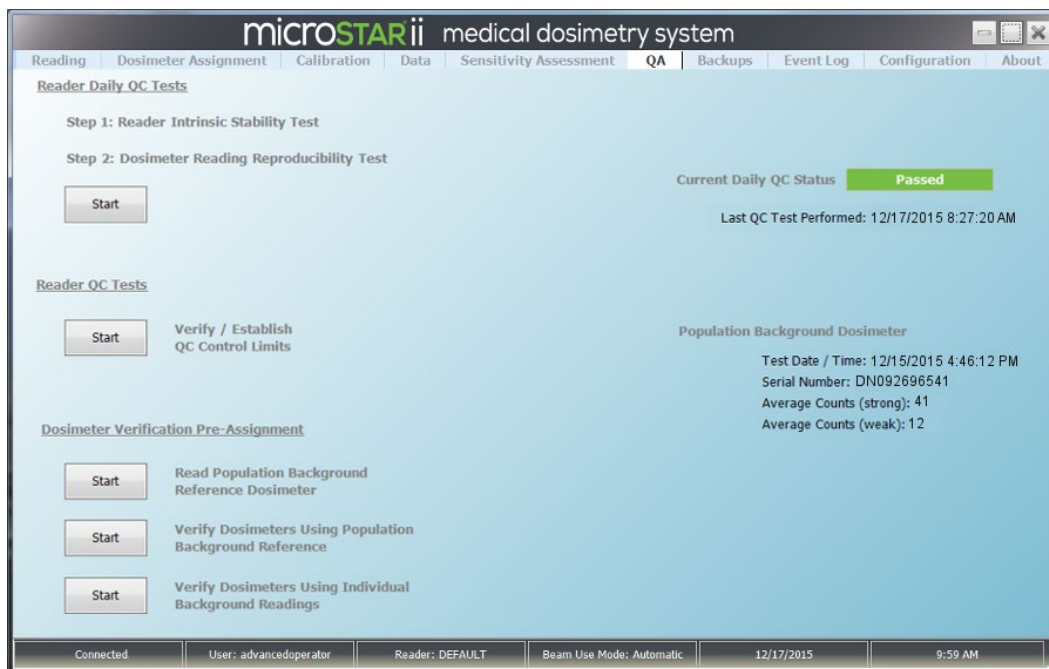

Figure 5-1: QA Tab
- STEP 3:** Under *Reader Daily QC Tests*, click the Start button (Figure 5-1). The Reader Intrinsic Measurement Test will start. When it is complete, click OK on the Reader Daily QC Test results prompt. The report will be updated with a
- STEP 4:** Under *Reader QC Test*, click the *Verify/Establish QC Control Limits Start* button. (See Figure 5-1.)
Dosimeter Verification Pre-Assignment measurements are run from the *QA* tab (Figure 5-1).
Both sets of verification are run from the *QA* tab (Figure 5-1). All of the readout information can be accessed from the *Data* tab.